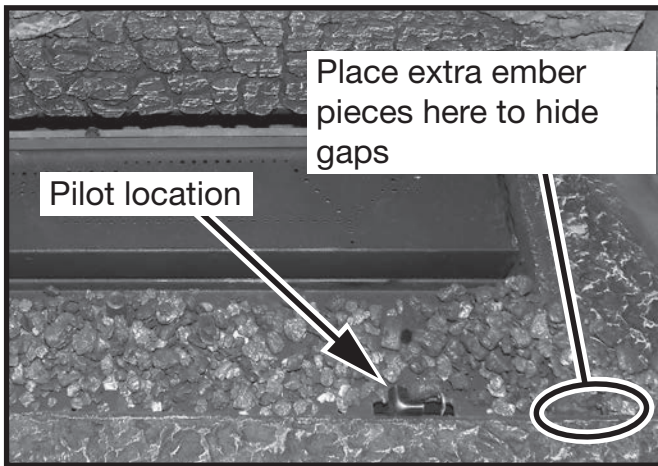
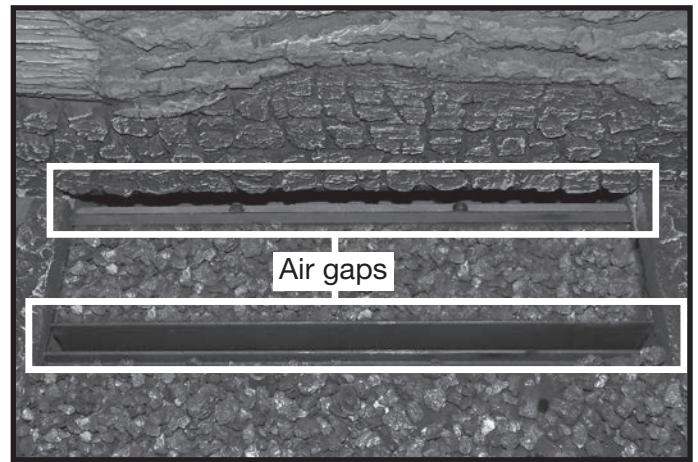

Figure 76: Front tray filled lightly with ember pieces and pilot location.
Figure 77: Air gaps.
9. Distribute a thin layer of ember pieces onto the front burner tray (Figure 76). Place extra ember pieces on top of the gaps between the front base piece and the two side base pieces. Keep the ember pieces from interfering with the pilot assembly. Place a thin layer of ember pieces onto the rear burner tray. Keep the ember pieces from falling into the air gaps between the front and rear burners and the gap between the rear burner and the air deflector which supports the first log (Figure 77).